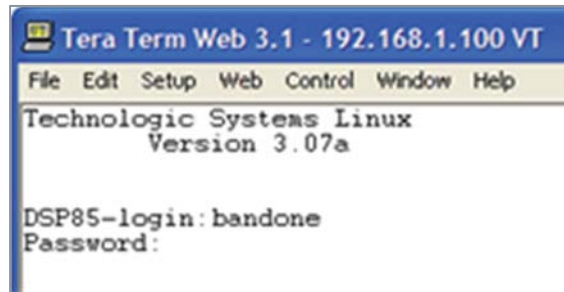

Figure 4-12: Login Screen
2. Click **OK**. The login screen, Figure 4-12, displays.